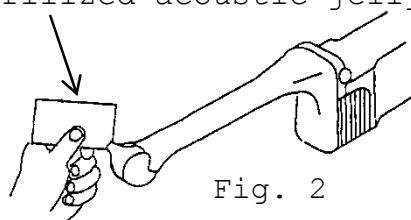

Fig. 2
- 4) Put proper quantity of sterilized Sterilized acoustic jelly on the probe head as a couplant. (See Fig. 2.)